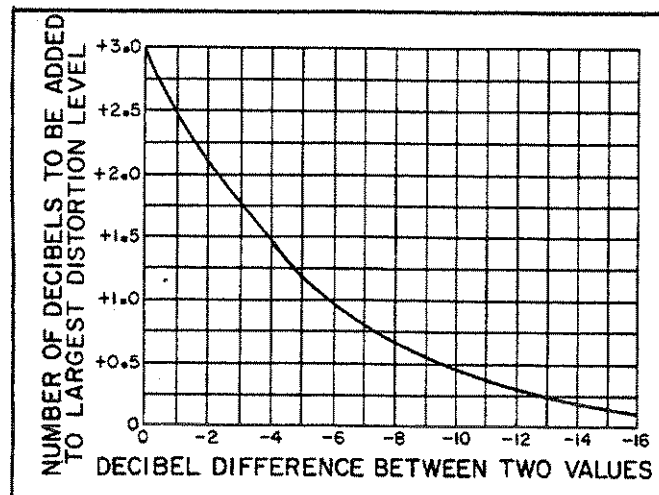

Figure 4-3. Logarithmic Addition of Harmonic Components.
g. Calculate the Total Harmonic Distortion using the graph shown in Figure 4-3. As an example—If the amplitude of the second harmonic is  $-110$  dB and the third harmonic amplitude is  $-114$  dB the dB difference between the two is  $-4$  dB. Locate this number on the horizontal axis of the graph. The  $-4$  line intersects the curve at approximately the  $+1.5$  level on the vertical axis. The total harmonic distortion is therefore the amplitude of the largest harmonic (second harmonic) plus the number determined on the vertical axis ( $-110$  dB  $+1.5$  dB =  $-108.5$  dB).